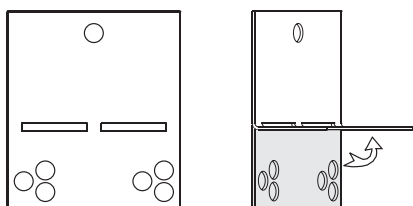

Figure 22
- Nailing flanges are provided. Bend nailing flanges to form right angles. Locate the pairs of holes on the side of the fireplace that will allow the face to be 1-1/2 inches plus the thickness of the finishing material. For example, if using a 1/2-inch board without tile or other facing material covering the board, the distance from the front of the fireplace will be 2 inches. If a covering goes over the board, then add 2 inches to the covering's thickness. Attach nailing flanges to fireplace using hex screws. **See Figures 22 and 23.**